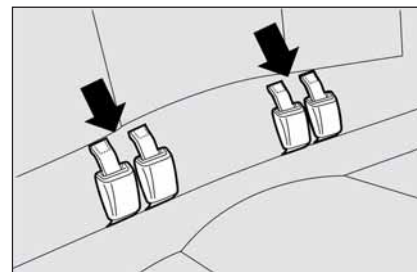

fig. 120
- ☐ fasten the seat buckles to the tabs on the seat back **fig. 120** (as shown by arrows);